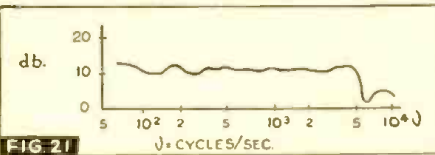

FIG. 21
It may be seen from Fig. 21 that the relative sensitivity of the ribbon microphone changes only slightly for the frequencies from 100 to 5,000 c./sec., while at 5,000 c./sec. it begins to decrease. This may be explained as follows.
The sensitivity of the microphone is given by the approximation formula (14). If, however, the product $kl = 2\pi l/c$ becomes of the order of magnitude of 2π , (14) no longer holds; succeeding terms of the series in the precise formula (13) must also be taken into account. From further considerations (4) it is found that the sensitivity of the microphone will be practically independent of the frequency up to that frequency for which $kl = \pi$, i.e., where the product of k and the width $a = l/\pi$ of the pole piece is about unity. Now $k = 2\pi/c = 2\pi/34,000$, so that with a width of the pole pieces of about 1 cm. we may expect that the sensitivity will change little up to a frequency of 5,000 c./sec. For higher frequencies the sensitivity then decreases quite rapidly as may be seen in Fig. 21. If it were desired that the sensitivity should decrease only at a higher frequency, this may be accomplished by making the pole pieces smaller, but under otherwise similar conditions this takes place, according to equation (14) at the cost of the magnitude of the sensitivity.